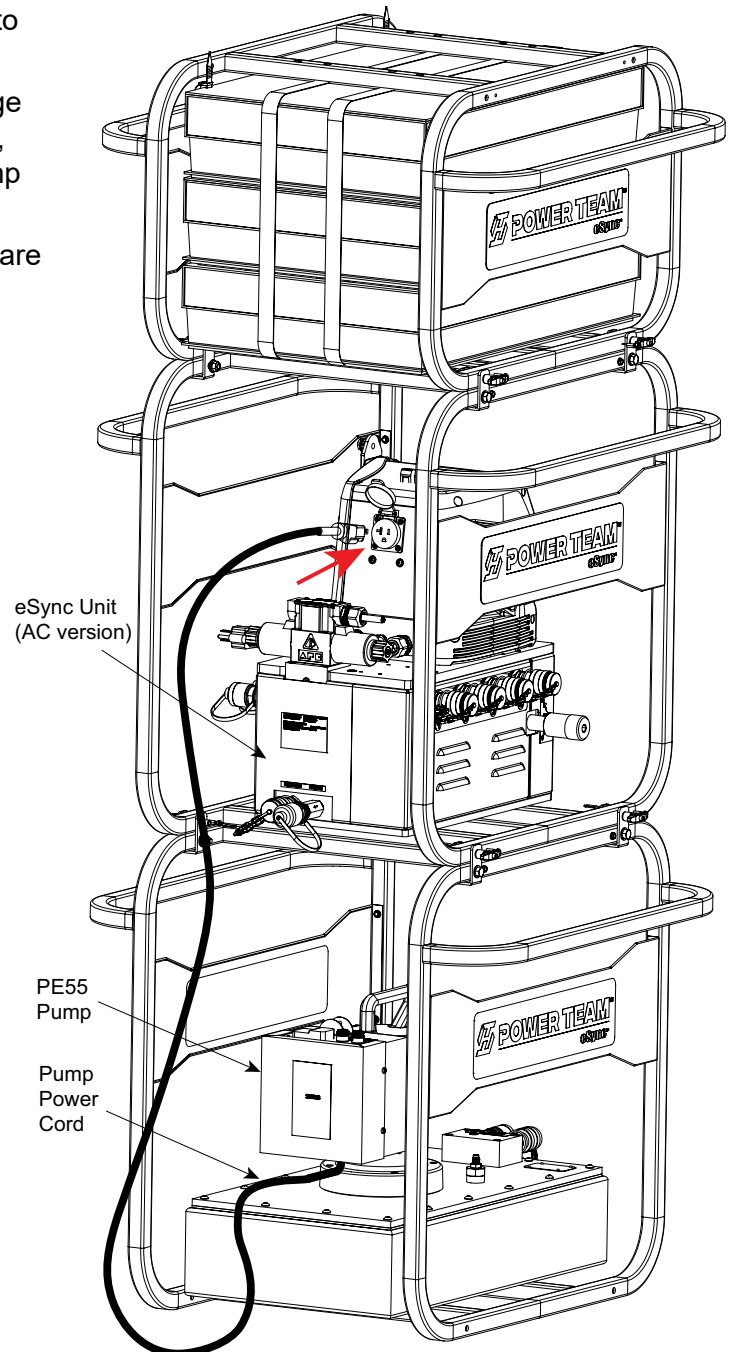

Fig. 12: PE55 Pump to eSync Connection
- B. Connect the PE55 pump cage to the eSync cage using the U-Bracket, T-Handle Lock Pin, Screw, Washer, and Nut that are supplied with the pump unit (see figure 12).
- E. Align and firmly push the plug into the eSync until it is fully inserted. Ensure that it fits securely and there are no loose connections (see figure 12).